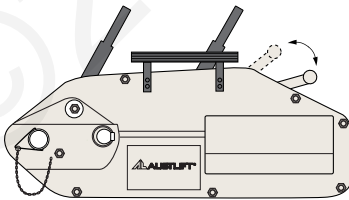

Figure 5.
2. To release the jaws push lever to B position towards to the anchor pin(see figure 5 & 6).
6. To engage the jaws by operating the rope, release mechanism to A position towards the hook end (see figure 5 & 6).
Each hoist is fitted with a lever (Figure 5 & 6) for releasing the jaw mechanism which should only be operated when the machine is not under load. There are only two positions for the rope release lever (figure 5 & 6) release or engaged.